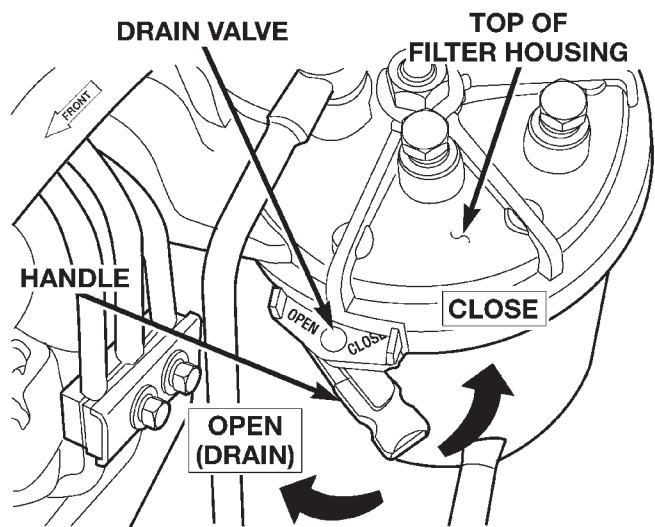

Fig. 47 Drain Valve at Fuel Filter/Water Separator
The canister drain valve (Fig. 47) serves two purposes. One is to **partially** drain filter canister of excess water. The other is to **completely** drain canister for filter, heater or water-in-fuel sensor replacement.
(2) **With engine not running**, rotate drain valve handle forward to OPEN (DRAIN) position (Fig. 47). Hold drain valve open until all water and contaminants have been removed and clean fuel exits drain hose.
(3) If fuel filter, fuel heater or Water-In-Fuel (WIF) sensor is being replaced, drain canister completely. Dispose of mixture in drain pan according to applicable regulations.
(4) After draining operation, rotate valve handle rearward to CLOSE position (Fig. 47). **If fuel filter, fuel heater or WIF sensor is being replaced, proceed to next step.**